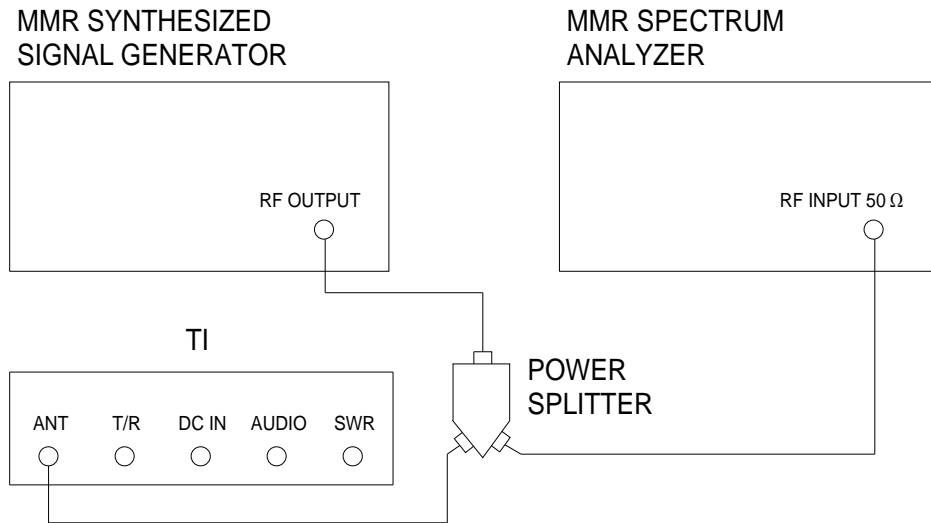

Figure 3.
4.3.2.1 Connect equipment as shown in Figure 3.